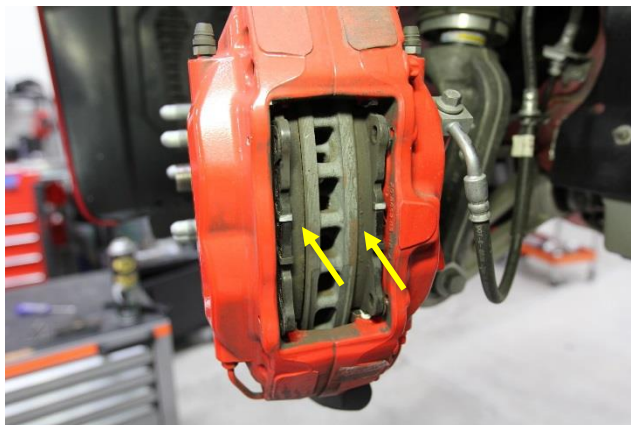

Figure 14 (Front caliper shown, rear caliper similar)
17. Install the brake pads into the front LH caliper (Figure 14).